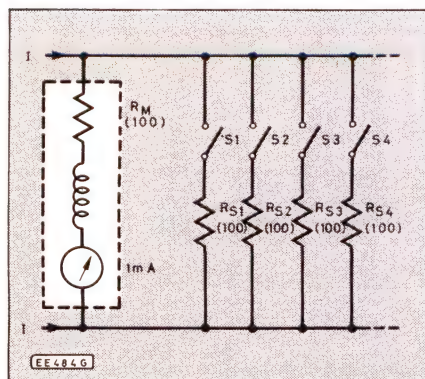

Fig. 1. Circuit to switch in various shunts.
In Fig. 1, the meter is presented by the
We have to find out how to determine the value of parallel or shunt resistance required for a wanted sensitivity adjustment. In Fig. 1, a number of shunt resistances (R_{s1} , R_{s2} , etc.) can be switched across the meter one by one. Each shunt has the same resistance as the meter (100Ω in our example). If only R_{s1} is switched into circuit, any applied current (I) has a choice of two paths: R_{s1} or the meter, R_m . Since the resistance of the paths are equal, the current divides equally. Half goes through the meter, half through the R_{s1} . When $I = 2\text{mA}$, 1mA goes through the meter. So for practical purposes our 1mA meter is now a 2mA meter. If R_{s2} is now also switched in, the current splits three ways equally and the meter becomes, in effect, a 3mA meter. With R_{s1} - R_{s3} in it becomes a 4mA meter and with four shunts in circuit, 5mA.